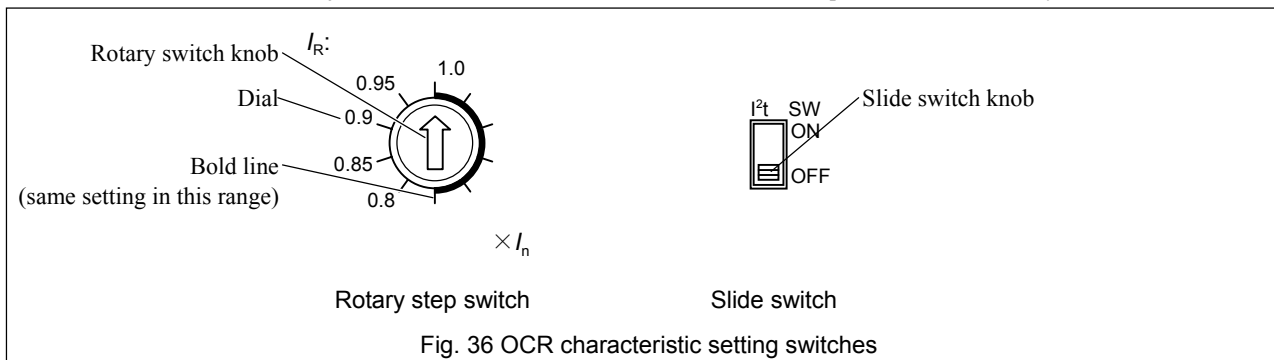

Fig. 36 OCR characteristic setting switches
- 3) Use rotary step switches and slide switches to set the OCR. See Fig. 36.